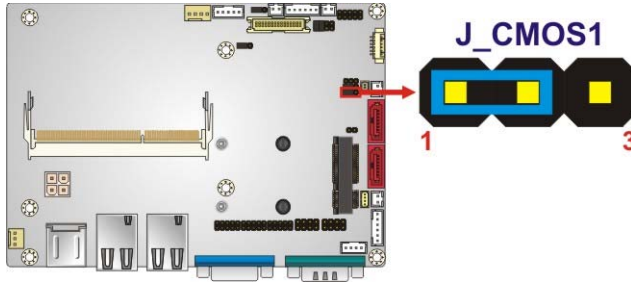

Figure 4-3: Clear CMOS Jumper Location
- Jumper Location:** See Figure 4-3